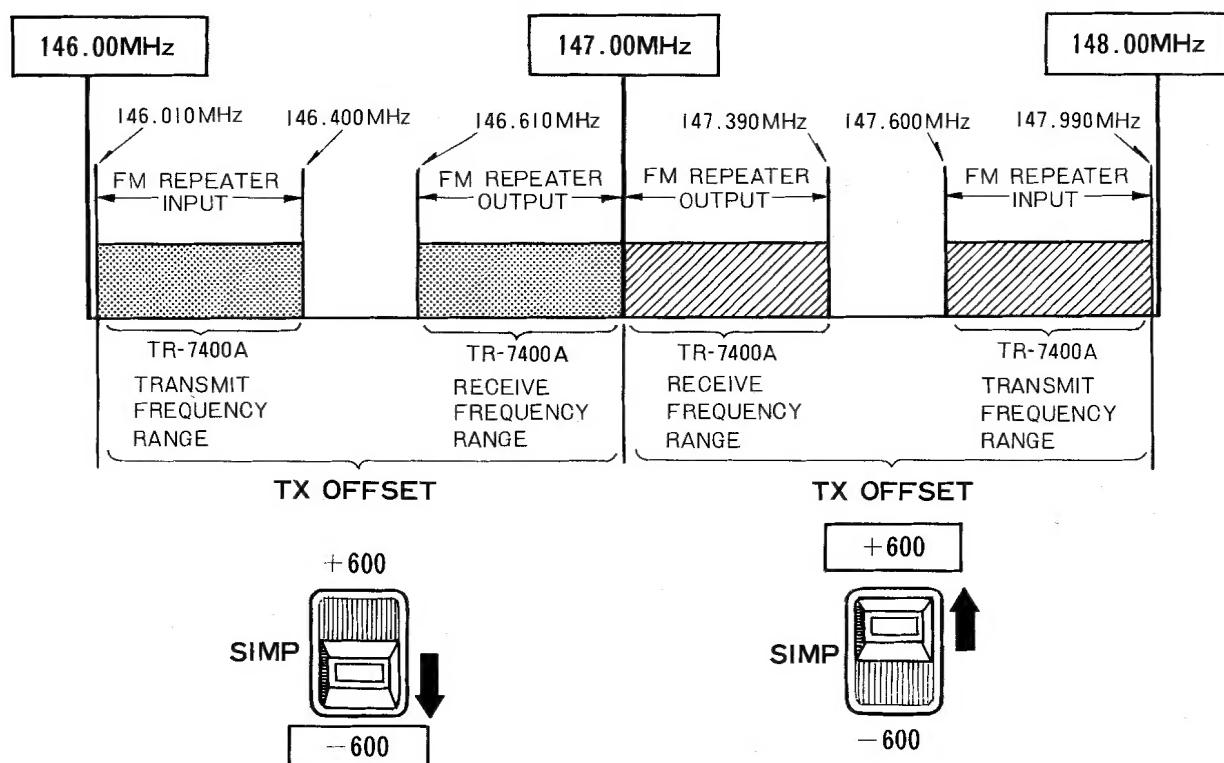

Fig. 7 Layout of the Two Meter Band
1. The TX OFFSET Switch ⑯, as described above, shifts 600 kHz higher or lower only the RF transmit frequency of your Transceiver irrespective of the positions of the MHz, 100 kHz, and 10 kHz Selector Switches ⑫, ⑬, ⑭ and 5 kHz Offset Switch ⑮, leaving the RF receive frequency as displayed. In general, repeater operation is done by setting the TX OFFSET Switch ⑯ to +600 for the Frequency range of 147.000 to 147.390 MHz and to -600 for 146.610 to 147.000 MHz (see Fig. 7).
2. In using the TX OFFSET Switch ⑯, particular care should be observed not to transmit out of the frequency band of 144 to 148 MHz.